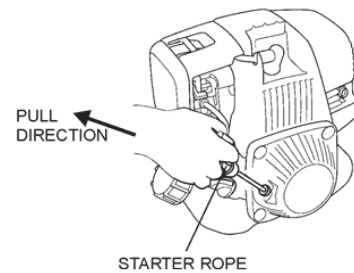

Figure 03
- 4) Pull the starter rope (Figure 03) lightly until you feel resistance, the pull briskly.